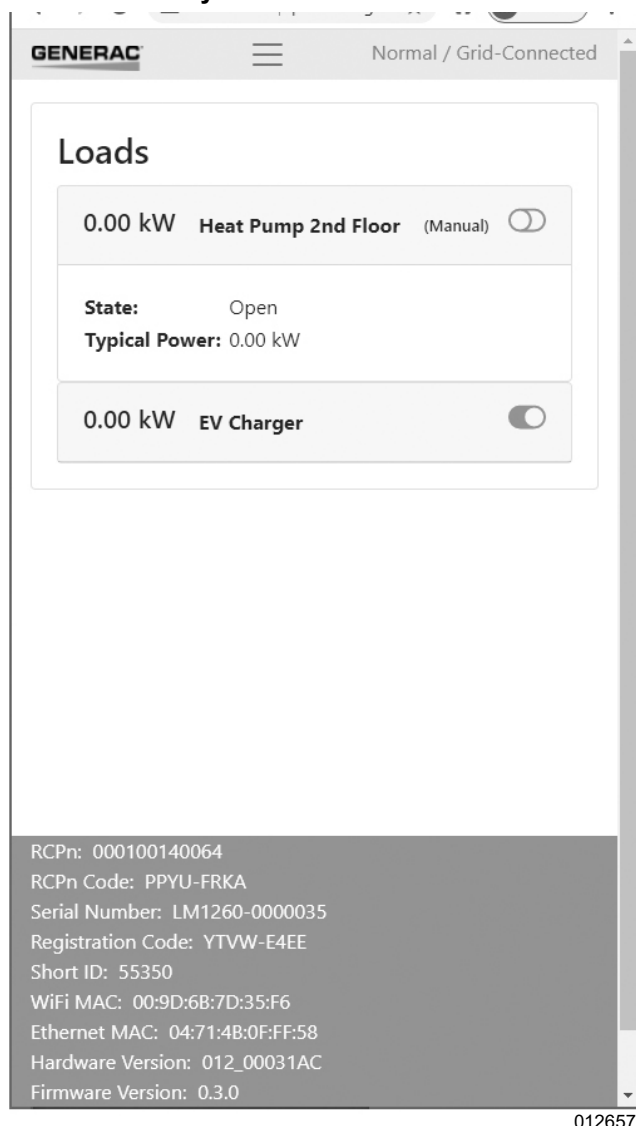

Figure 4-5. Test the Paired Relay Circuit
1. See Figure 4-5. Tap on the Control tab in the web interface.